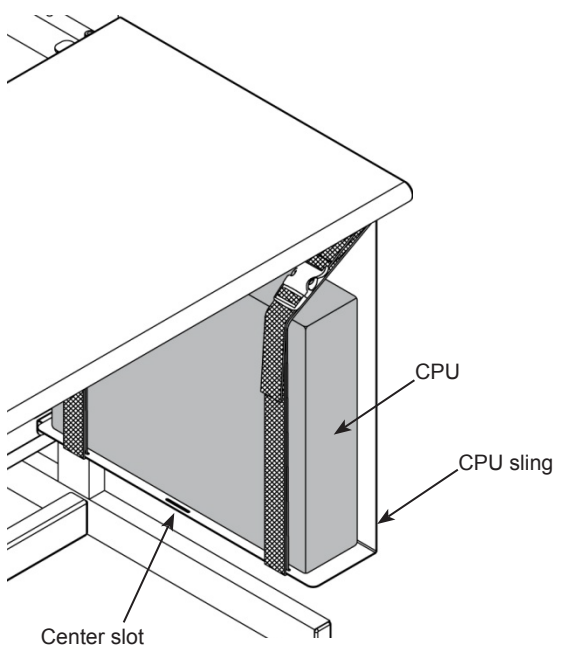
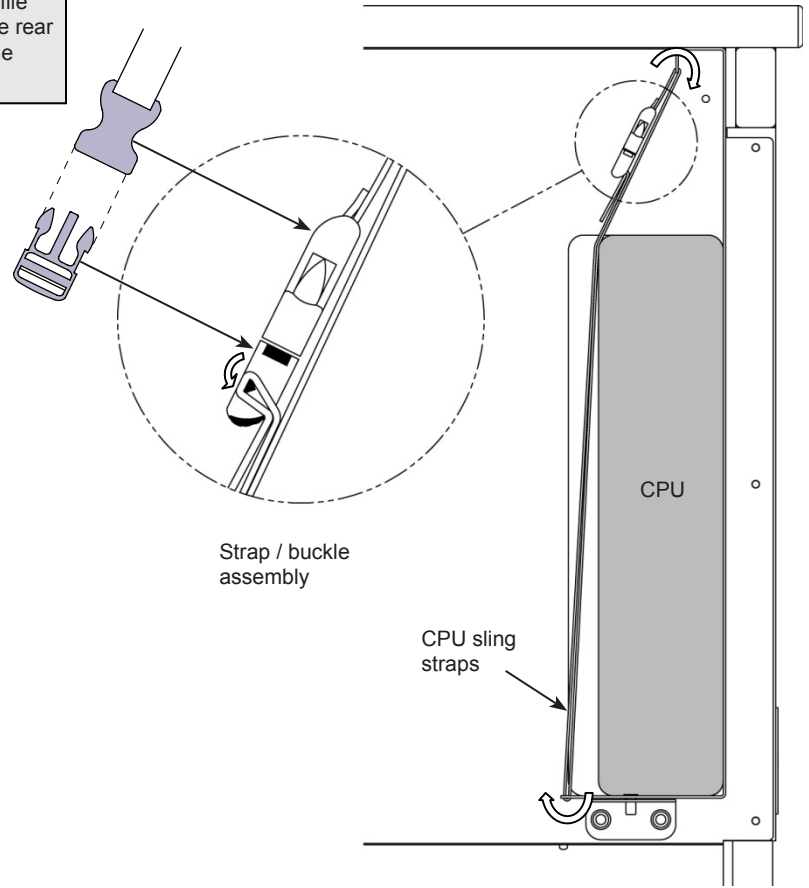

Figure 5A
Figure 5B
- Make sure the CPU will be supported by both straps. Tighten the straps around the CPU while keeping the buckles positioned as high as possible to avoid interference. **Figure 5A.**
Note: The center slot can be used for better support of smaller profile CPU's. If the center slot is necessary, take the rear strap out of the rear slot and thread into the center slot shown in **Figure 5A**. Thread the strap as shown in **Figure 5B**.